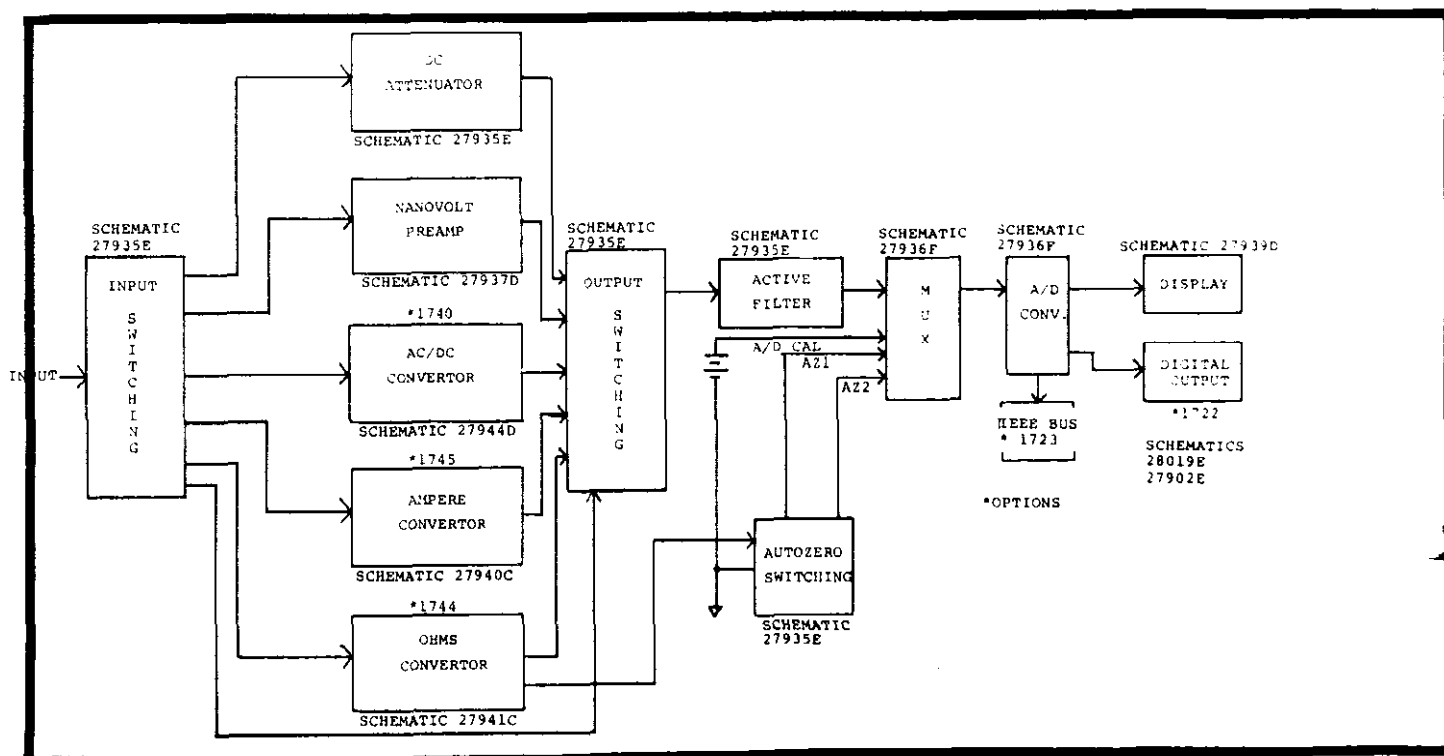

FIGURE 21. Diagram of Signal Flow.
5-2. SIGNAL FLOW. The overall flow diagram is shown in Figure 21.
b. The "input switching" connects the signal to one of the various signal conditioning circuits shown in Figure 21, then to the output switching consisting of S302 (deck 1, rear), and relays K501 and K502. The signal then goes through an active ac filter (U901, Zone M-3) to the A/D input (A/D SIG).